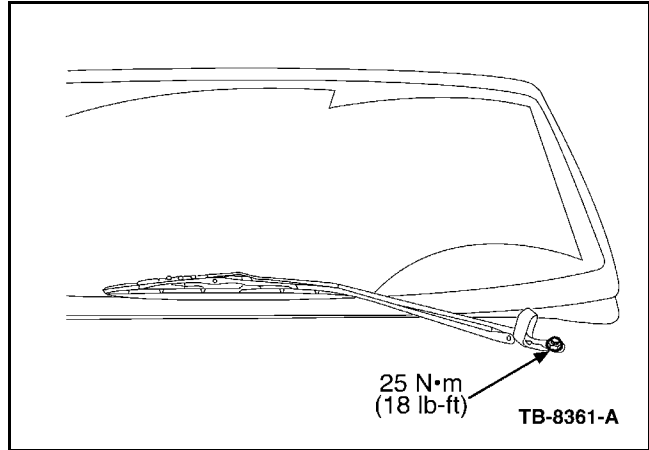

Figure 14 - Article 088-2005-5551
21. Install wiper pivot arms (Figure 14).